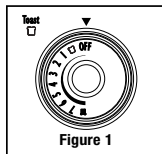

Figure 1
1. **Toasteze™ Control Knob** – Turn the knob to select how dark you would like your food toasted; 1 is lightest, 7 is darkest. (See Figure 1)